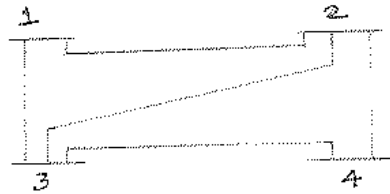

fig. 6 (a)
6. A) From system shown in fig. 6 (a). Construct the  $Y_{BUS}$ . The parameters for various bus are given in table, table 6 (a). 9